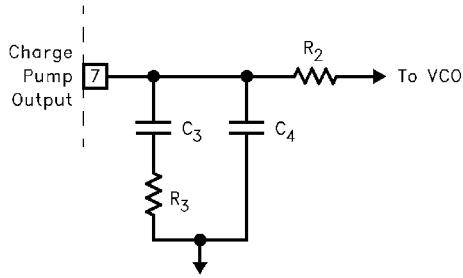

FIGURE 12. TYPICAL LOOP FILTER
6. Notice R₂ has little effect on the loop filter design. R₂ should be large, around 100k, and can be adjusted to compensate for any static phase error T_θ at lock, but if made too large, will slow loop response. If R₂ is made smaller, T_θ (see "Timing Diagrams" on page 5) increases, and if R₂ increases, T_θ decreases. For LDET to be low at lock, |T_θ| < 50ns. C₄ is used mainly to attenuate high frequency noise from the charge pump. The effect these components have on-time to lock is illustrated in Figure 12.